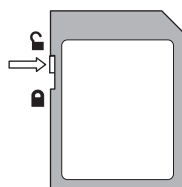

Figure 103 Write protect tab
3. Ensure that the replacement card is not write protected (Figure 103), then insert it into the slot and gently push it home.